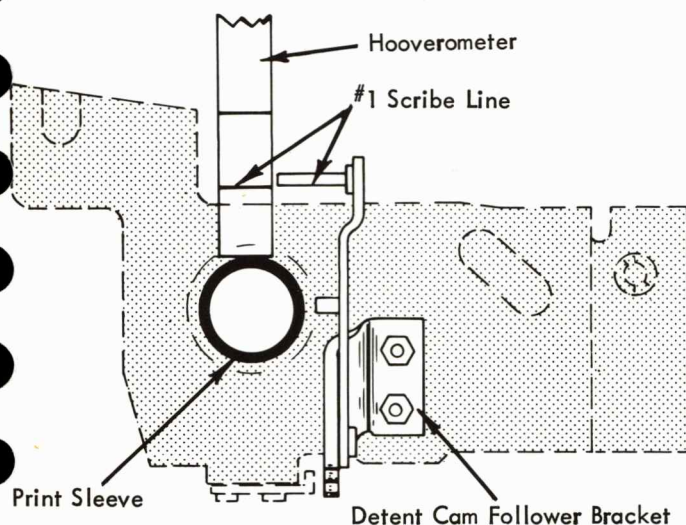

FIGURE 54B. Detent Cam Follower Bracket
- b. Vertically so that the bottom surface of the pin on the cam follower lines up with the scribe line #1 on the Hoovermeter when the Hoovermeter is placed against the print sleeve as shown in Figure 54B.